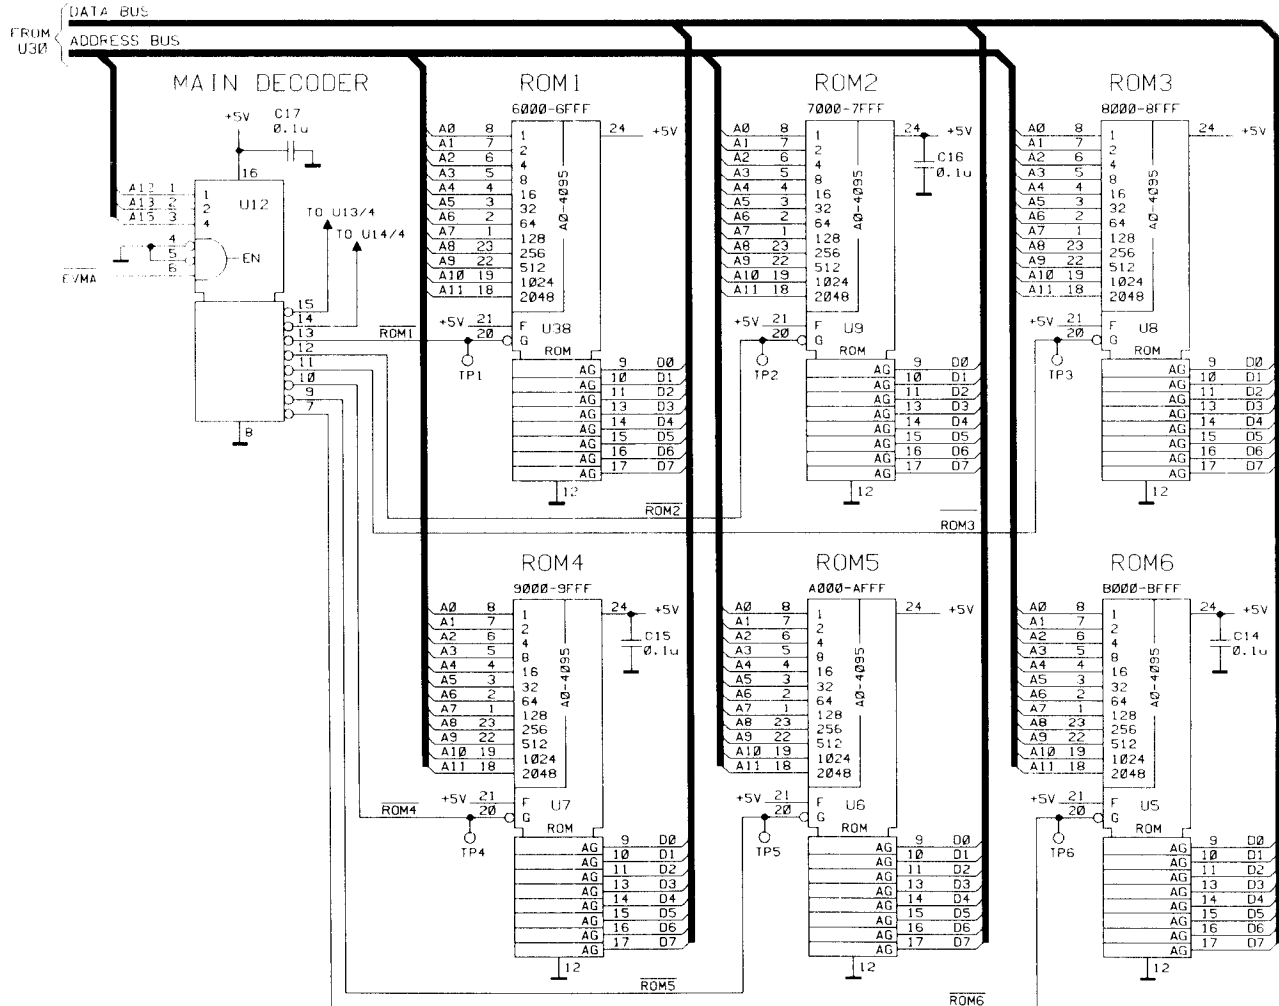

Figure B-12. 08116-66513: ROM schematic
3. Figure B-12 shows the change to Figure 10.7-5 for addressing six ROMs.